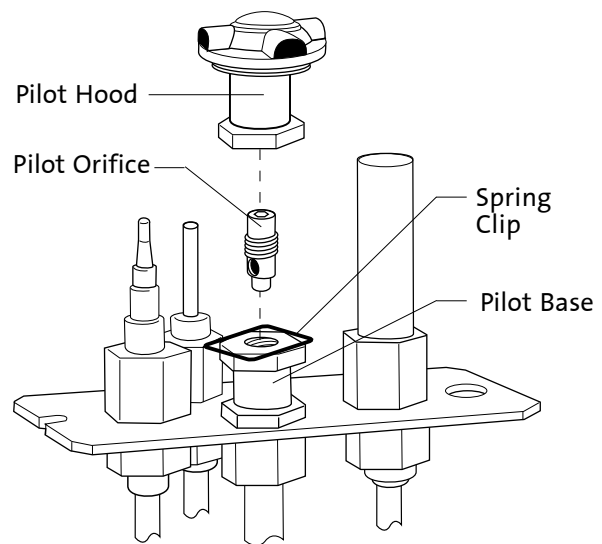

Figure 17. Pilot assembly and orifice.
11. Change the Pilot Orifice. From within the firebox, pull the Spring Clip back to release the Pilot Hood from the Pilot Base. Use the 4mm hex key to remove the original Pilot Orifice from the base, (counterclockwise). See fig. 17.